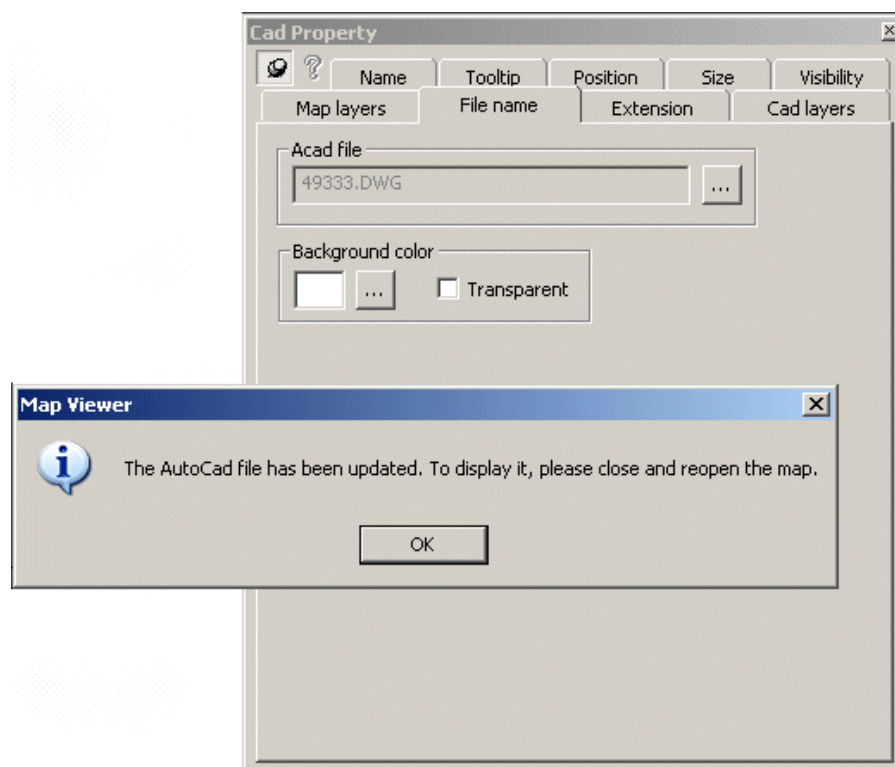

Fig. 21 CAD Property window – File name tab
*A message displays informing you the AutoCAD file has been updated, and the action to take to display it (see Fig. 21).*